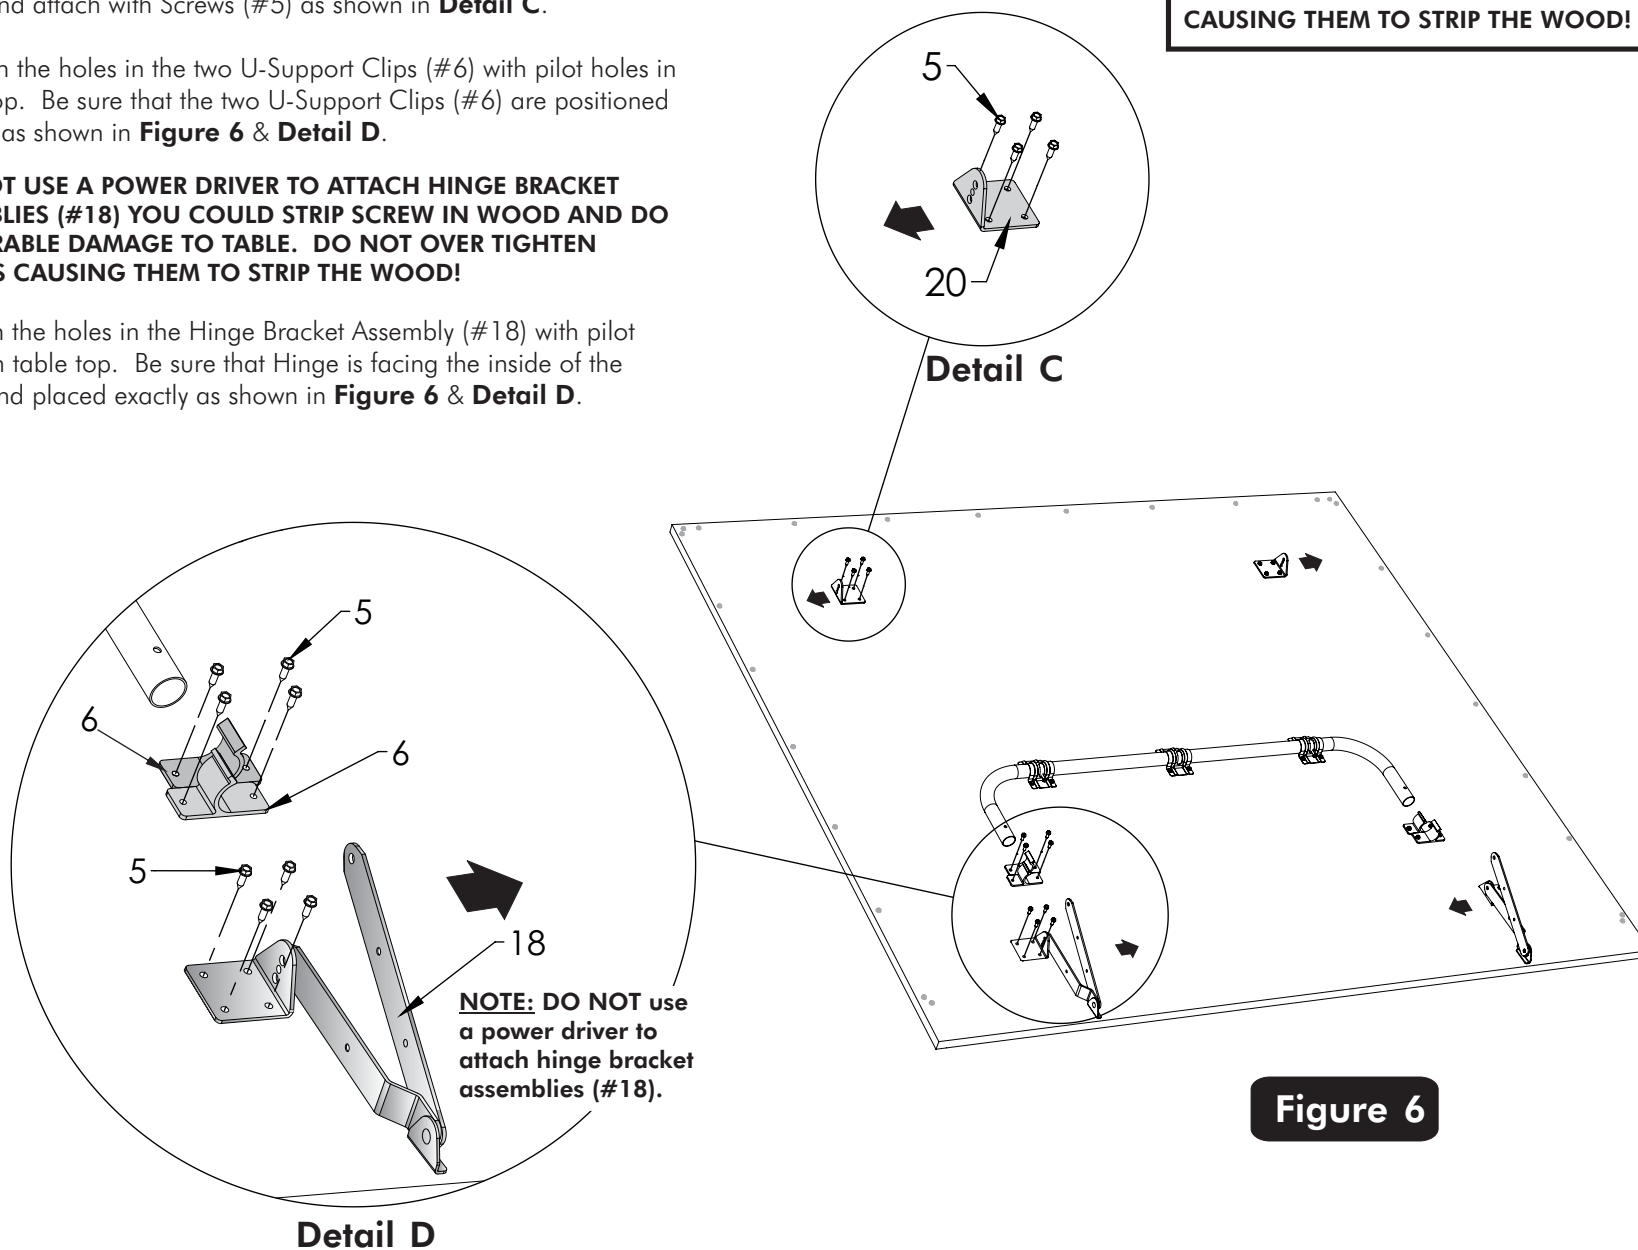

Figure 6
10. Assemble parts to the bottom of the table top with Screws (#5) as shown in **Figure 6, Detail C** and **Detail D**.
b) Align the holes in the two U-Support Clips (#6) with pilot holes in table top. Be sure that the two U-Support Clips (#6) are positioned exactly as shown in **Figure 6 & Detail D**.
c) Align the holes in the Hinge Bracket Assembly (#18) with pilot holes in table top. Be sure that Hinge is facing the inside of the table and placed exactly as shown in **Figure 6 & Detail D**.